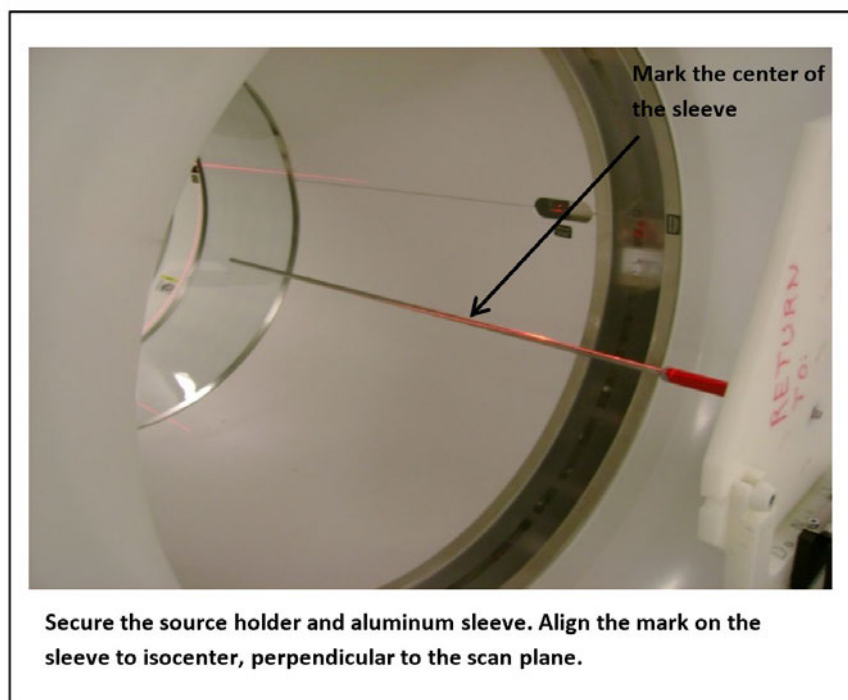

Figure 3.5: Position the Line Source in the center of the FOV
- Use the Sagittal and Coronal lasers to align the sleeve to isocenter and perpendicular to the scan plane. Refer to Figure 3.5.
4. Align the axial laser line to the mark on the center of the aluminum sleeve. Refer to Figure 3.5.